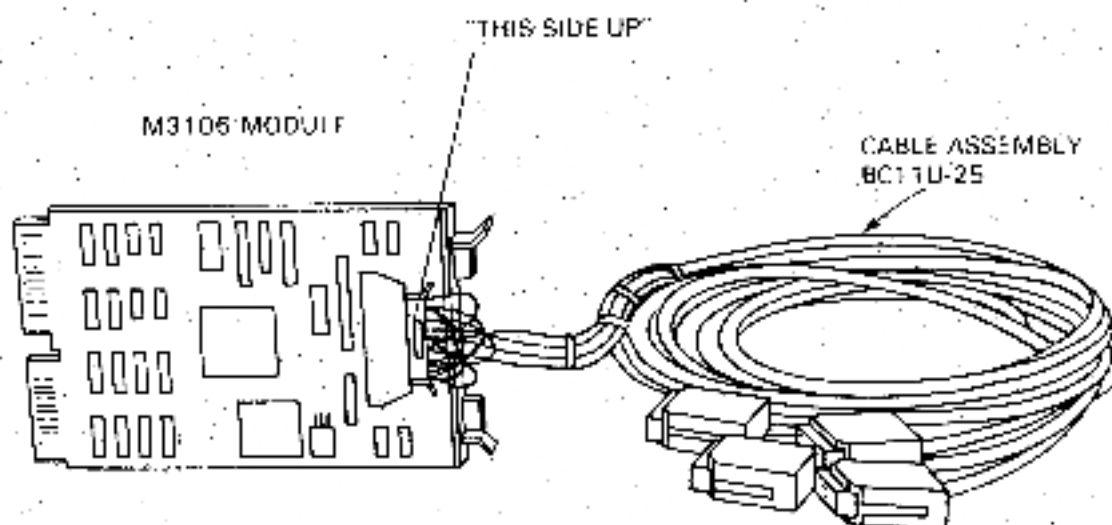

Figure 2-2 DZQ11 Installation (BC11U-25)
3. If the unshielded cab-kit (D3) version is used, replace the H329 test connector with the Berg end of the BC11U cable assembly. Follow the 'This side up' instruction on the assembly. Refer to Figure 2-2 for assembly and interconnection instructions.